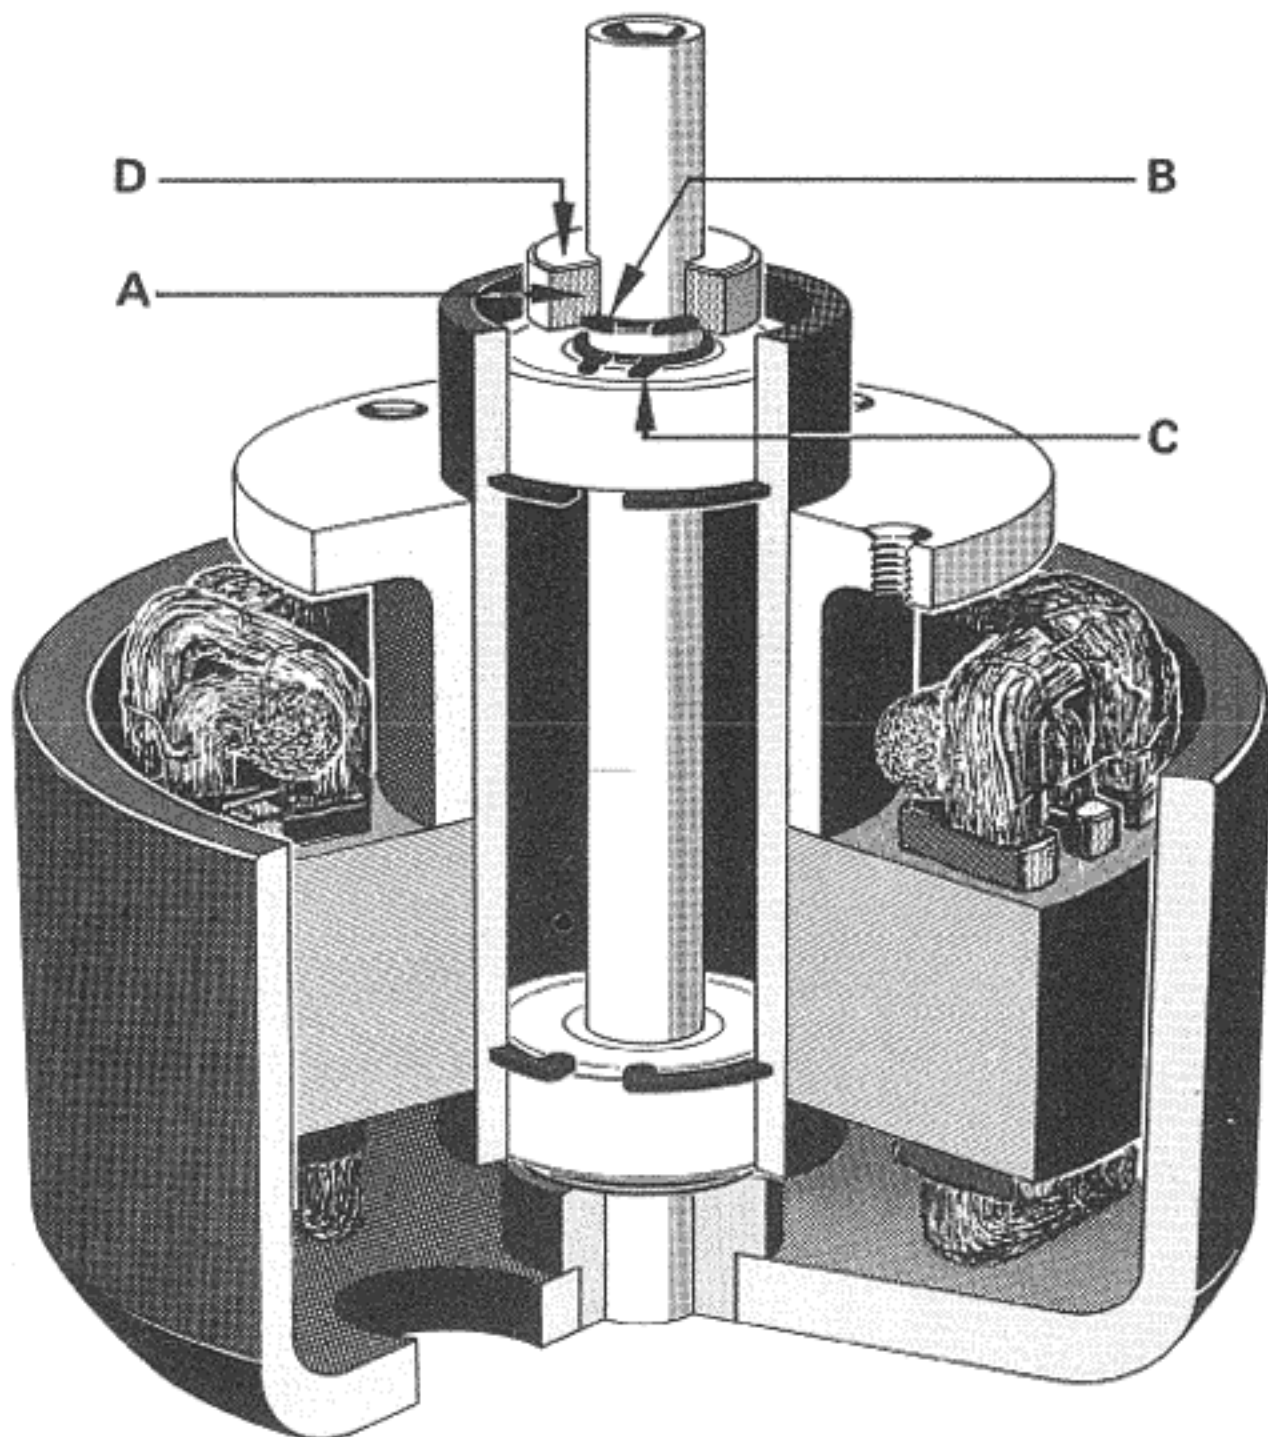

Fig. 4.5–27
4.5. Capstan Motor (with Ball Bearing) Fig. 4.5.-26
All bearings are lubricated for their life and should normally require no service. They shall be exchanged only with original bearings, in case of malfunction. If the capstan axis is exchanged, the upper felt washer of sintered bearing D (fig. 4.5–26) is to be lubricated with some drops MOBIL DTE extra heavy.